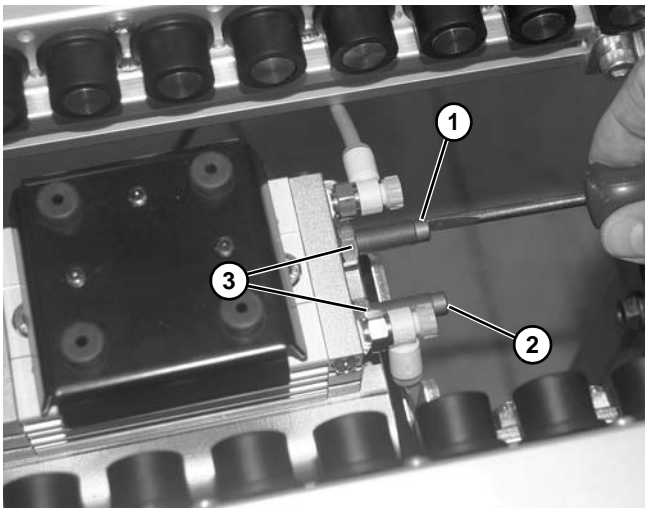

Figure 53
2. Adjust movement by rotating screw (**Figure 53, item 1**) left or right with an open-end wrench. Adjust stroke by rotating screw (**Figure 53, item 2**) left or right with an open-end wrench. Tighten nuts (**Figure 53, item 3**).